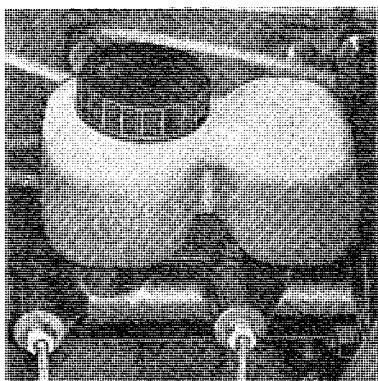

Fig. 1-14. Brake fluid container
2. Without removing the cap, check that the level in the brake fluid container is above the "Min" mark (see Fig. 1-14).